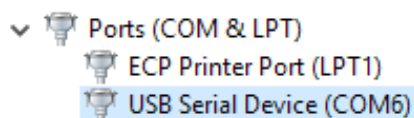

Figure 86 Device Manager Windows 10
3. Under **Ports**, right click on **USB Serial Device** and select **Update Driver Software** (Figure 86).